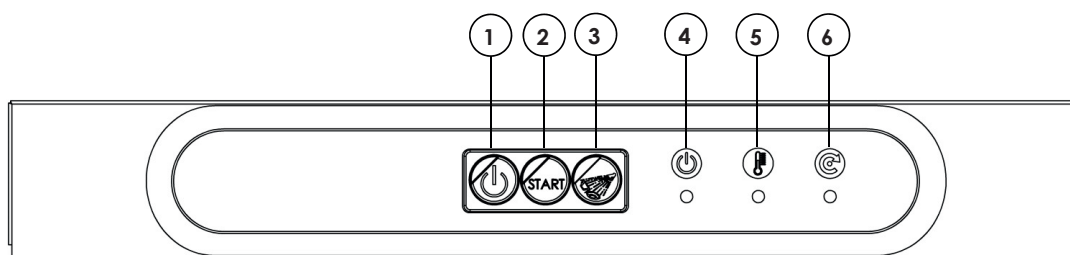
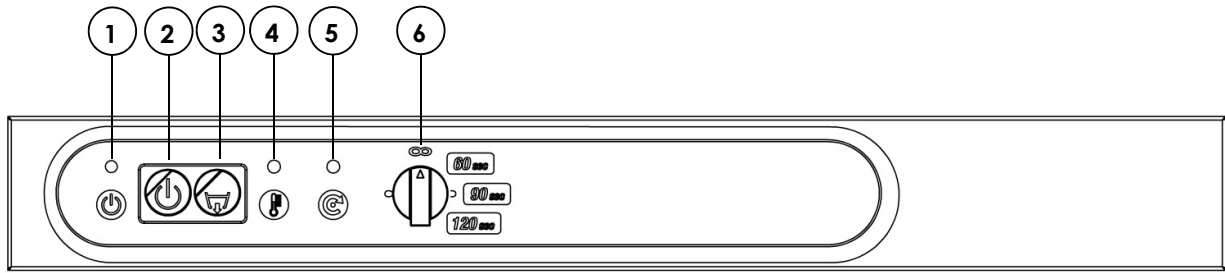

Fig. 14a
Fig. 14c
On fig. 14a, 14b, 14c you can see the control panel of the dishwasher and the reference to each control, according to the model of the dishwasher and the presence or absence of the drain pump.
Front loading dishwasher (ref. fig. 14a or 14b)	Dish washer with lid (ref. fig. 14c)
5. Selecting the washing time		<p>Before starting washing, select the desired washing time with the WASH TIME SELECTOR (6).</p> <p>Position 1: 45 sec. wash 15 sec. rinse Total time:60 sec.</p> <p>Position 2: 75 sec. wash 15 sec. rinse Total 90 sec. cycle</p> <p>Position 3: 105 sec. wash 15 sec. rinse Total 120 sec. cycle</p> <p>Position O: Position O is a special position that BLOCKS the current function in use: - if the machine is washing, it will continue washing indefinitely; - if the machine is rinsing, it will continue rinsing indefinitely; -- if the machine is stopped, it cannot start by opening and closing the lid.</p>
6. Washing	<p>Open the door, introduce the basket with the dishes (making sure the arrangement of the dishes respects the description contained in para. 3.4 – PART 2), close the door and press the CYCLE START KEY (2) to start the wash cycle: the CYCLE INSERTED LIGHT (6) comes on.</p> <p>The cycle ends when the CYCLE INSERTED LIGHT (6) turns off.</p>	<p>Raise the lid, insert the basket with dishes (making sure the arrangement of the dishes respects the description in para. 3.4 - SECOND PART), lower the lid and press the lid closure handle downwards: the CYCLE INSERTED LIGHT (5) comes on.</p> <p>The washing/rinse cycle starts automatically</p> <p>The cycle ends when the CYCLE INSERTED LIGHT (5) turns off.</p>
7. Supplementary rinse	<p>If the machine is set to activate the rinse cycle manually (fig. 14a) and for more than one rinse cycle to be performed, keep the MANUAL RINSE BUTTON (3) pressed for as long as you want the cycle to last.</p>
1. turn off the dishwasher using the POWER SWITCH (fig. 14a, 14b or 2 fig. 14c)